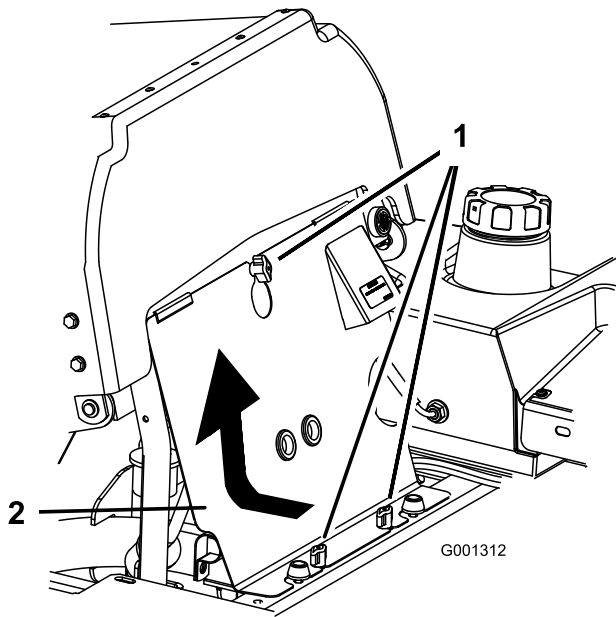

Figure 65
3. Loosen the front engine panel knobs and remove the panel (Figure 65).